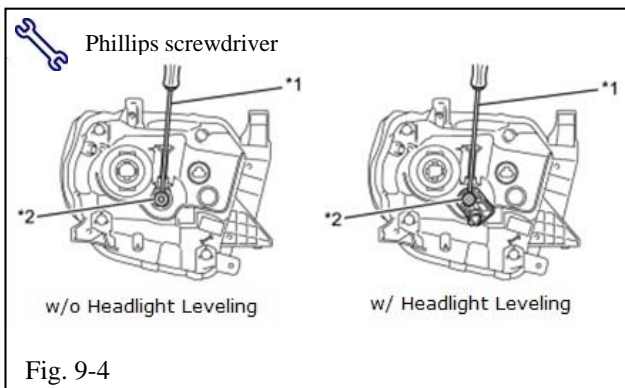

Fig. 9-4
- (3) Adjust the headlight aim to within the specified range by turning aiming screw “*2” with a screwdriver (Fig 9-4).